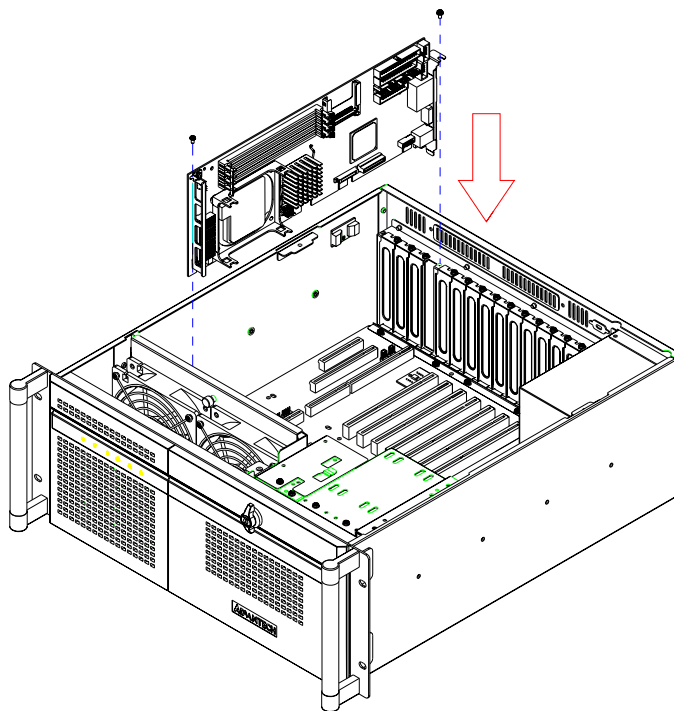

Figure 2.5: Installing a full-length card
2. Insert the CPU card (with CPU, CPU cooler, RAM, and necessary cables installed) or add-on card vertically into the proper slot. For full-length CPU cards, please make sure that the card bracket has been inserted properly into the slot connector. Fasten the screws on the top of both brackets of the card. (see Figure 2.5)